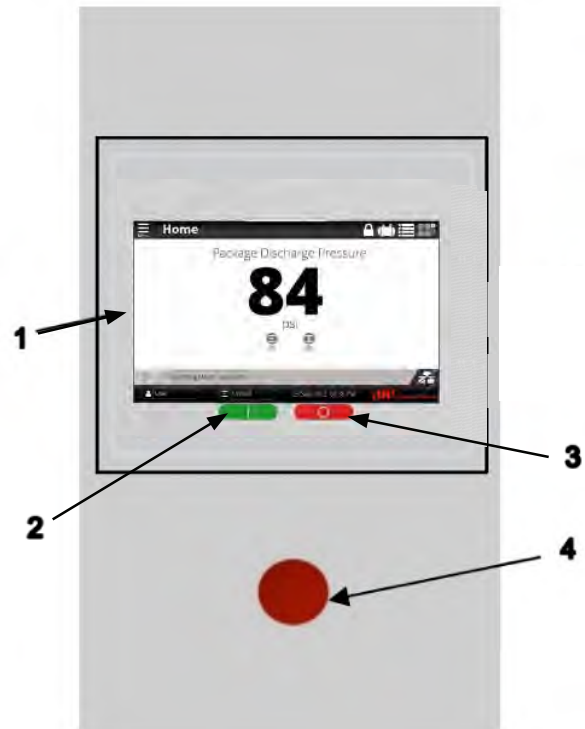

Figure 22: Controller Display
For switching the compressor off “normally”, use only the stop push-button (-3- Figure 22), but not the EMERGENCY STOP push-button (-4- Figure 22). After having been switched off, the compressor is after-cooled for 30 seconds (soft stop).
Press start button < I > (-2- Figure 22) on the control panel.
Press stop button < O > (-3- Figure 22) on the control panel, not the Emergency Stop button (-4- Figure 22).
The emergency stop button (-4- Figure 22) is located next to the compressor controller. It is used to immediately shut down the unit. Only use the Emergency Stop button to shut down the unit in emergencies.
- Press START button [I] (-2- Figure 22).
- To switch off the compressor in the usual way use the STOP button (-3- Figure 22) and not the emergency STOP button (-4- Figure 22). After shutdown the compressor has a run on time of 30-50 seconds (soft-stop). The time remaining is counted down on the display.